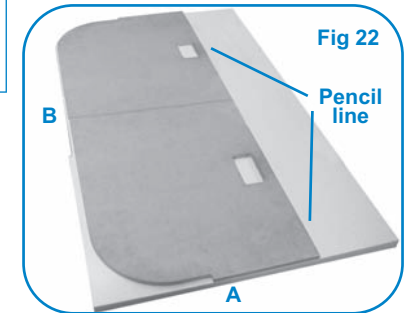

Fig 22
1. Position jig onto worktop (fig 22). Using a pencil, draw a line on the worktop following the sides of the jig. This gives you a guide when the jig is flipped over so both sides will match (fig 22).